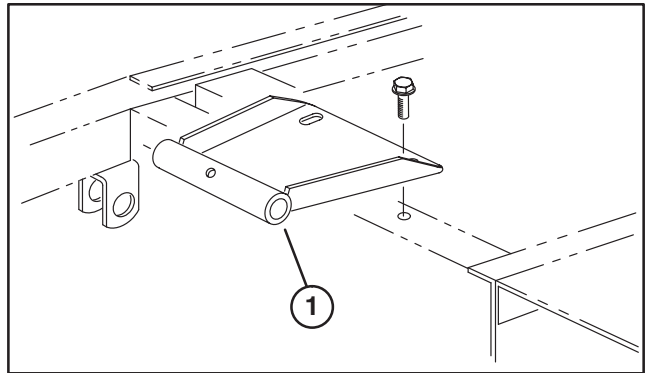

Figure 8
8. Mount seat pivot bracket to frame with (2) flange screws supplied in kit (Fig. 8)
- Mount seat pivot bracket to frame with (2) flange screws supplied in kit (Fig. 8)